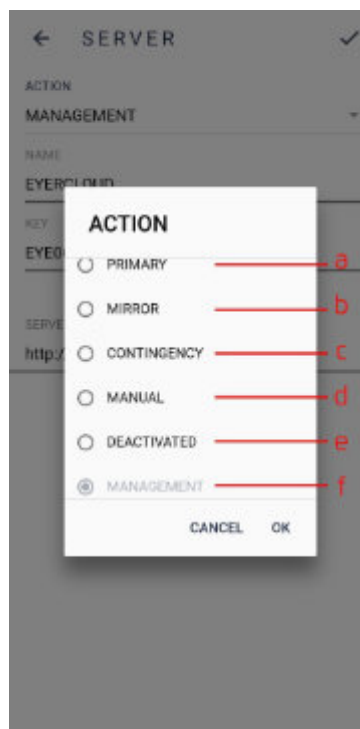

Figure 110: Synchronization action options
1. **Action:** Defines server action behavior, figure 110: